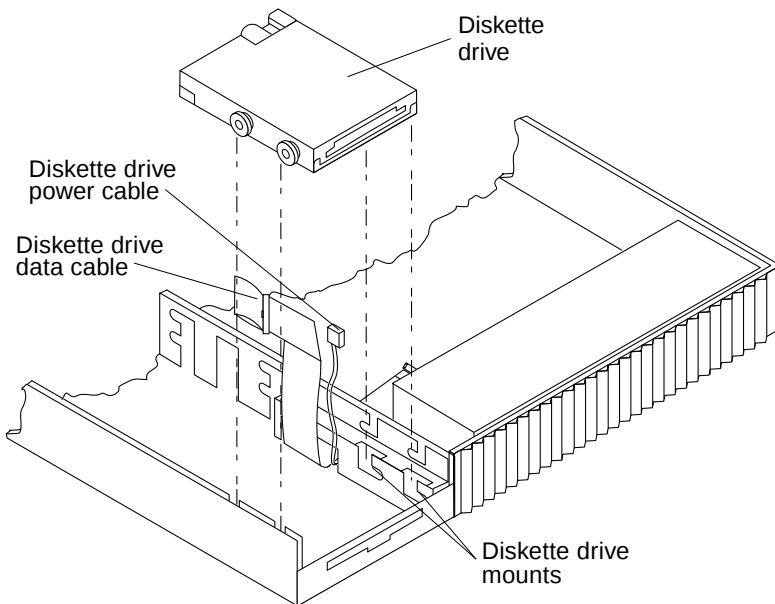

FIGURE 9-19 Installing the Diskette Drive
- 3. Lift the diskette drive data cable and the diskette drive power cable up. Lower the diskette drive into position. Push the diskette drive forward to fully seat in the diskette drive mounts (FIGURE 9-19).**